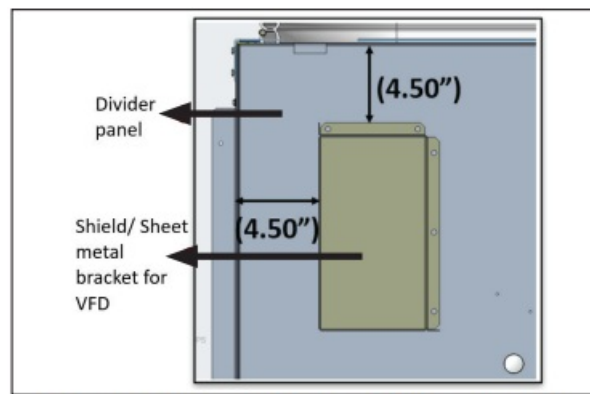
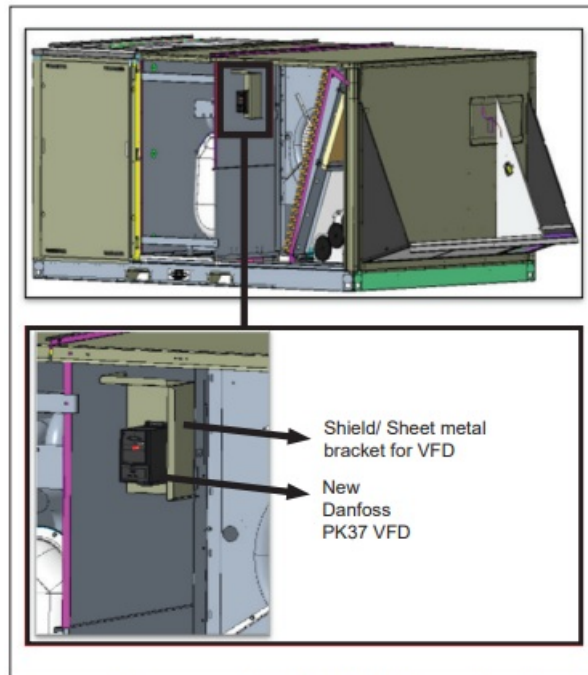

Figure 2: Placement of the shield/sheet metal bracket on the divider panel
Figure 4: Placement of VFD in Unit (EFlex unit, unit with a convenience outlet or the convenience transformer)
2. Mount the VFD shield bracket to the vertical wall/ divider panel as per the dimensions given in Figure 2 and Figure 4.